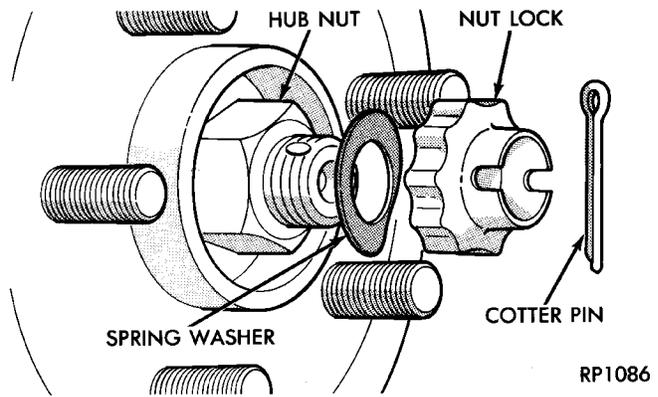

Fig. 3 Cotter Pin, Nut Lock and Spring Washer
- (1) Remove cotter pin, nut lock, and spring washer (Fig. 3) from the end of the outer C/V joint stub axle.